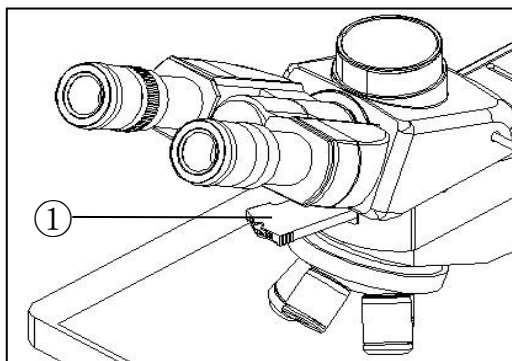

Fig.11
2.1.6 Mounting Analyzer (Fig.11)
Insert the analyzer ① into the jack under the trinocular viewing head if necessary, as shown in Fig.11.